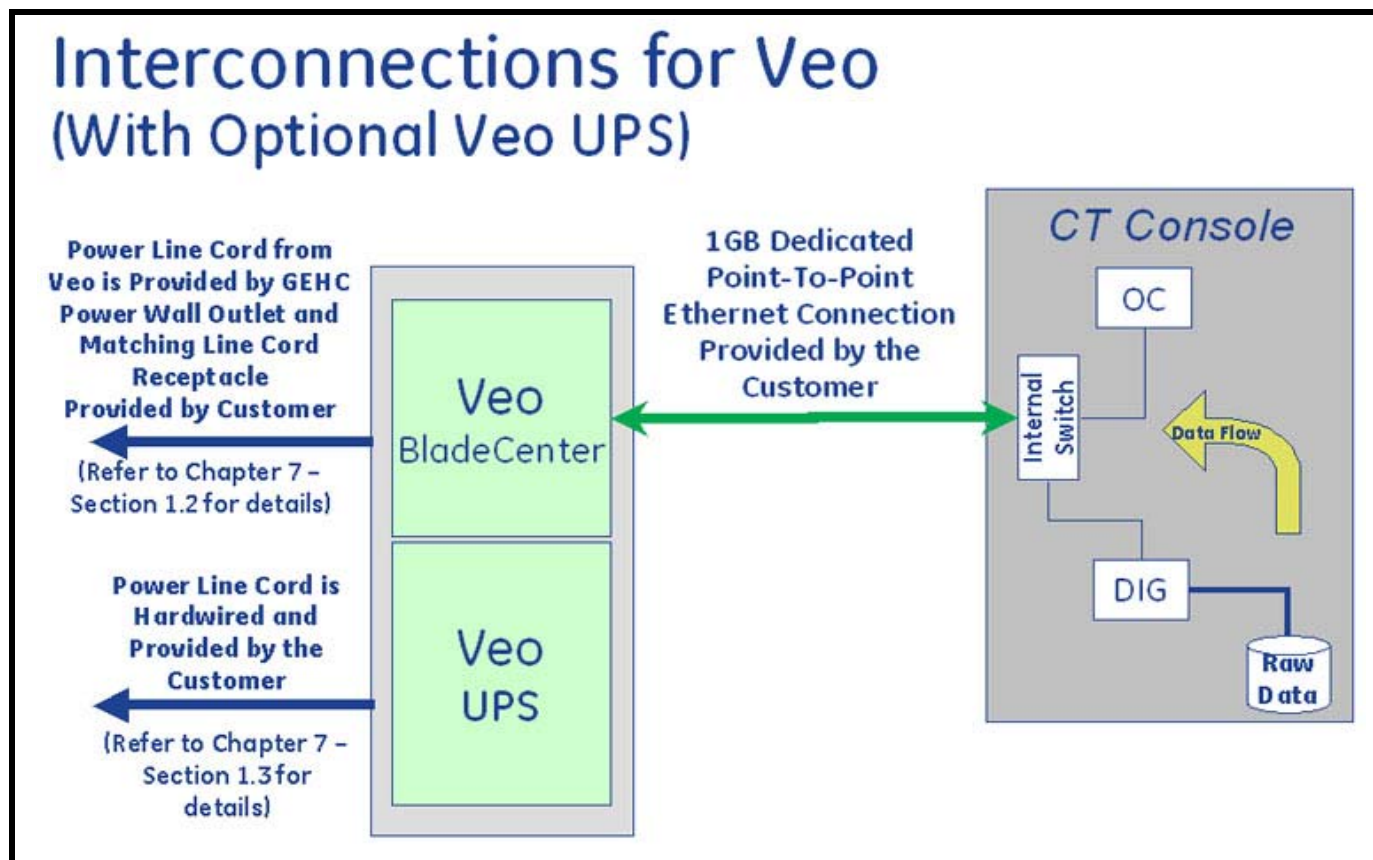

Figure 8-2 Veo Interconnections with optional UPS
- See Figure 8-2 for BladeCenter with optional UPS.